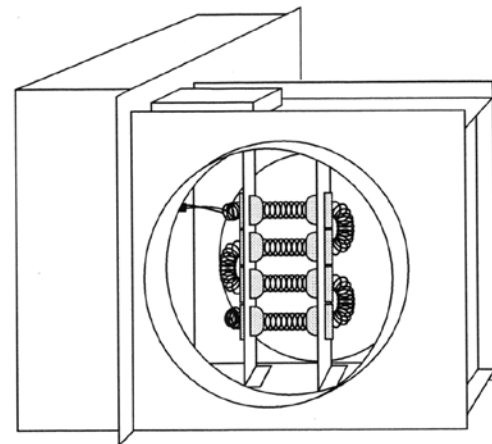

Fig. 3
- RFC Round Collar Open Coil (Fig. 3)